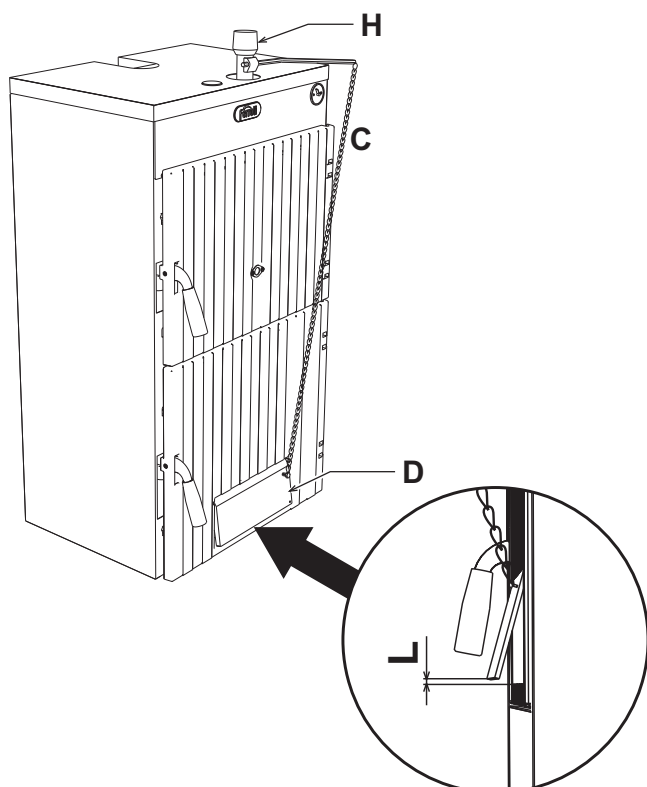

fig. 2 - Installation
2. Fit the thermostatic regulator "H" fig. 2.
4. Adjust the air inlet door adjustment screw so that with the door touching there is in any case an air passage of approx. 1 - 2 mm (max.). With boiler cold, set the control thermostat to 60°C. Hook the chain "C" to the special air inlet door eyelet "D", adjusting its length so that the air passage "L" (fig. 2) is approx. 15 mm for "coke III" and 2 mm for "wood".
Adjust the air inlet door adjustment screw so that in any case there remains an air passage of not more than 1 - 2 mm. With the boiler cold, set the thermostat to 60°. Hook the chain to the special air inlet door eyelet, adjusting its length so that the air passage "L" (fig. 2) is approx. 15 mm for "coke III" and 2 mm for "wood".